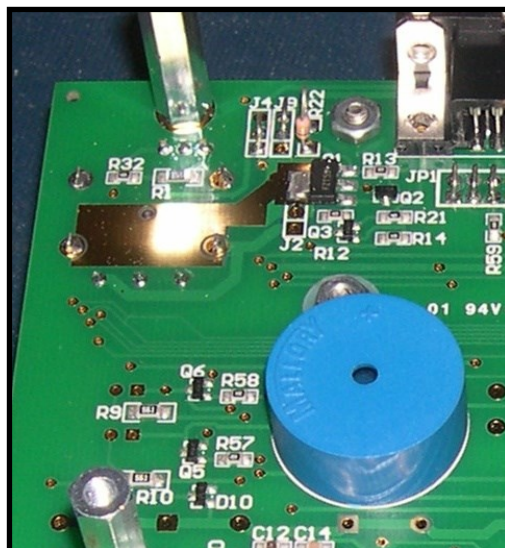

Figure 6c. Beeper installation.
- Solder the beeper flush to the back side as shown in the picture below. (Figure 6c).